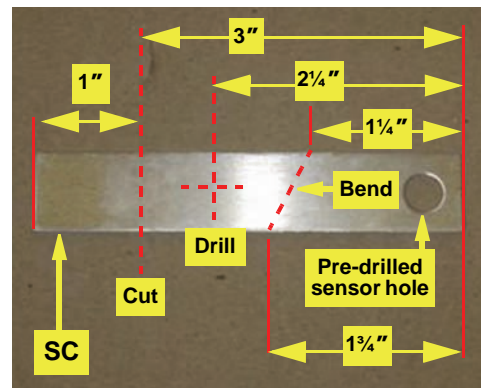

Figure 1c: Switch bracket for cutting, drilling and angle bending
- c. Cut one inch from switch bracket **SC** then drill a 1/4" hole 2 1/4" from the end with the pre-drilled sensor hole. Put an angled bend in the bracket at 1 1/4" and 1 3/4" from the pre-drilled sensor hole end (Figure 1c).